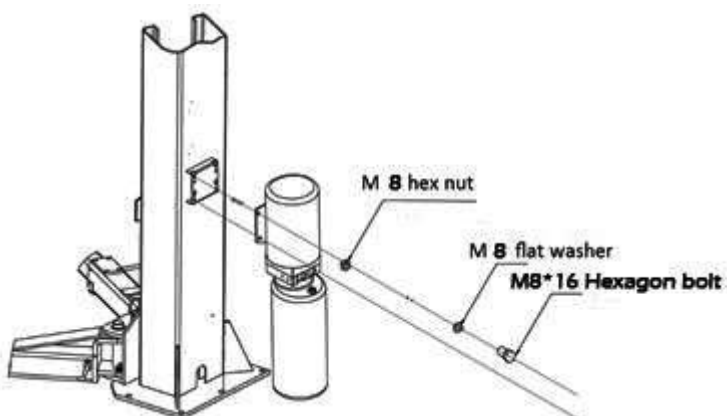

Fig 8
Step7: Mount the power unit onto the power side post. (Fig 8)